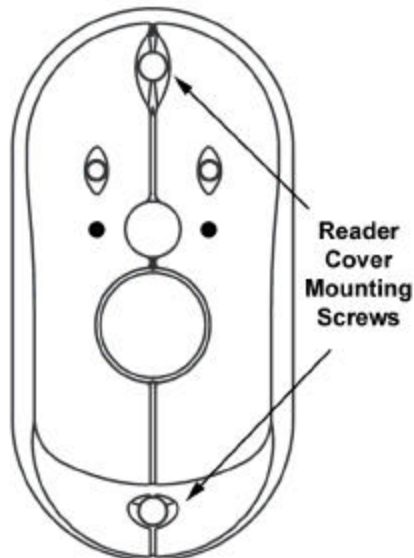

Figure 2-21 – Reader Cover Screws
2.12.1 If not already done, remove the Reader Cover by removing the two secure Torx Reader Cover Mounting Cover Screws (6-23 x 3/8") (Figure 2-21).
- 2.12.6 Install the Reader Cover and fasten with two secure T-10 Torx Reader Cover Mounting Screws (6-32 x 3/8") using the T-10 TORX L-key that is provided (Figure 2-21).